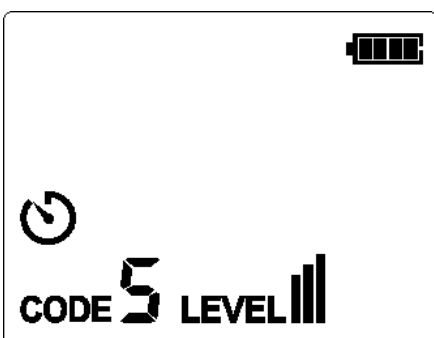

Figure 7.2.2a
3. For most applications, the default transmission strength is III (default code: 5). As shown in Figure 7.2.2a, the level shown on the LCD is III.